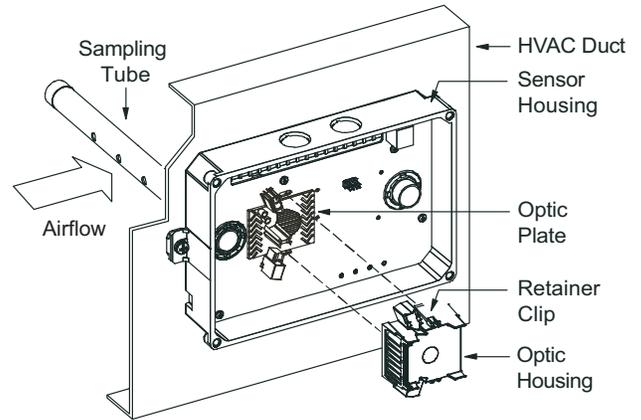

Fig. 62 — Sensor Cleaning Diagram
1. Disconnect power from the duct detector then remove the sensor's cover. (See Fig. 62.)